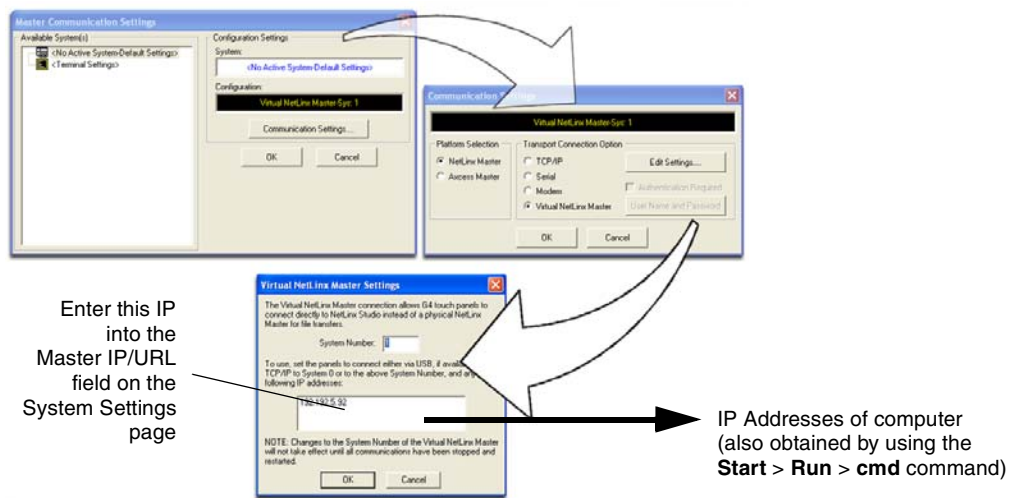

FIG. 85 Assigning Communication Settings and TCP/IP Settings for a Virtual Master
3. Select **Settings > Master Communication Settings**, from the Main menu to open the Master Communication Settings dialog (FIG. 85).
7. Click the **Edit Settings** button (on the *Communications Settings* dialog) to open the Virtual NetLinx Master Settings dialog (FIG. 85).